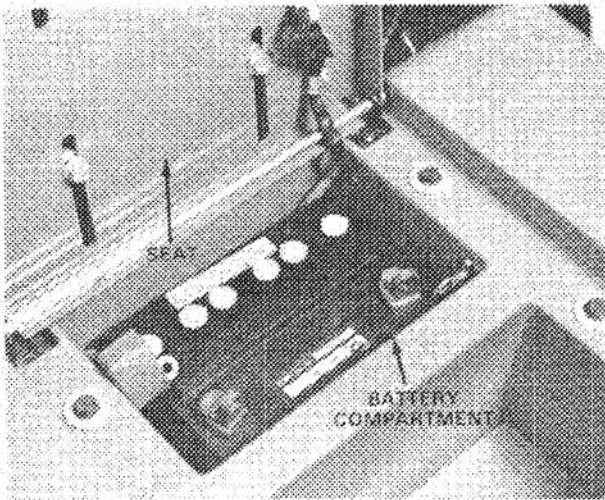

Figure 5
1. Tip the seat forward and lift battery out of compartment (Fig. 5).